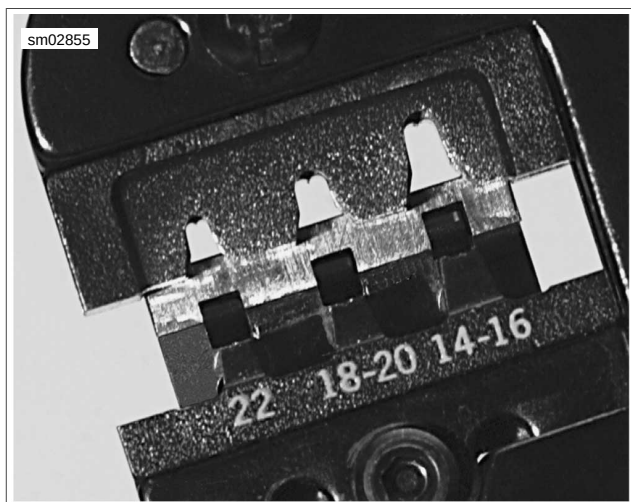

Figure A-31. Square Openings in Socket Locator Bar
1. See Figure A-31. With the crimp tails up, place the terminal through the punch/die into the square opening in the socket locator bar.